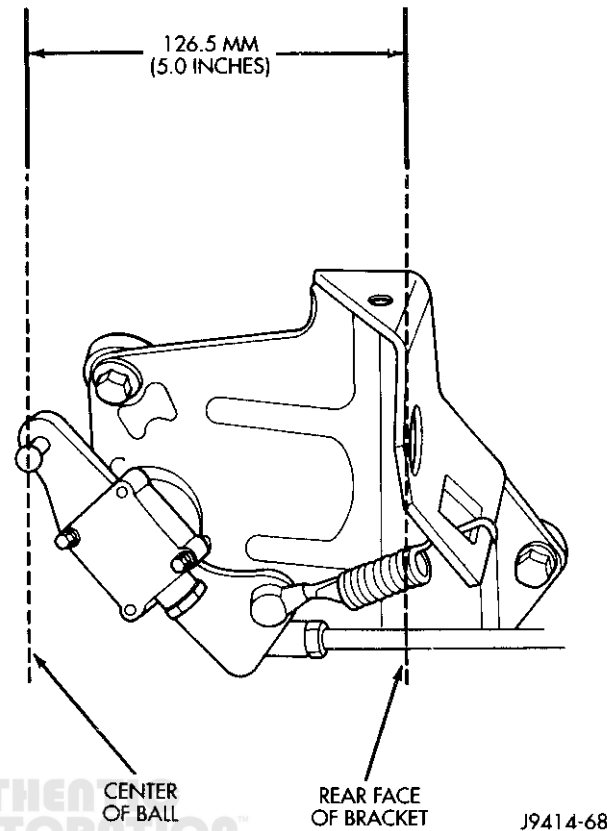

Fig. 35 Linkage Measurement—Diesel
CAUTION: Before attempting to test the TPS, verify the linkage adjustment dimension (Fig. 35). This dimension **MUST** be 126.5 mm (5.0 inches) **BEFORE** testing. For linkage adjustment procedures, refer to Throttle Linkage Adjustment—Diesel Engine. This can be found in the Accelerator Pedal and Throttle Cable section of this group.
(9) Slowly rotate the flat (Fig. 36) on the linkage rod (lengthen or shorten) to achieve 1.0 volt ($\pm .2$ volts) on the voltmeter with the linkage in the idle position. At wide open throttle (WOT), the output voltage must be 2.2-to-2.9 volts higher than at idle speed. **DO NOT lengthen or shorten the linkage rod more than 1 mm from the dimension shown in (Fig. 35). If voltage requirements cannot be met by linkage adjustment (125.6 to 127.6 mm), replace the TPS.**
(10) Tighten both nuts after adjustment.
(11) With the engine OFF, operate the throttle from accelerator pedal and check for throttle lever action and binding. Be sure throttle lever stop is against the low idle speed screw after throttle is released.